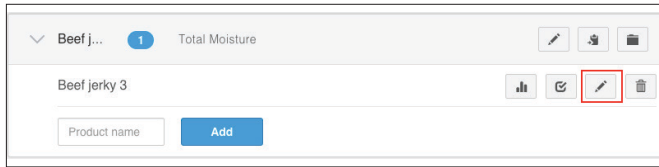

Figure 11 Select product
3. Select the product group that contains the product to be added as a model (Figure 11).
5. Click the edit icon on the product row (Figure 11).